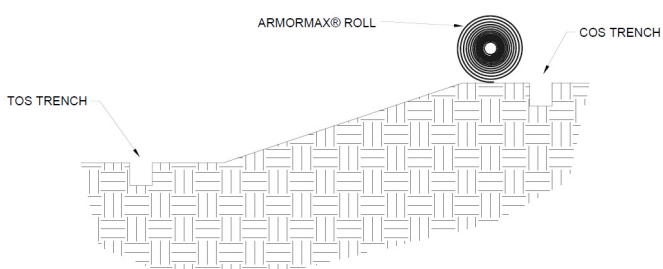
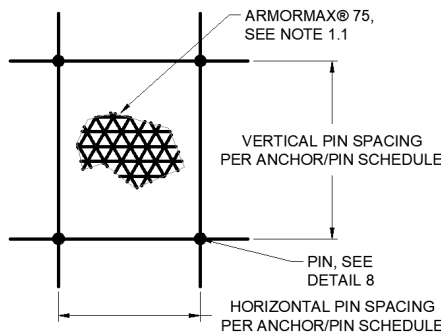
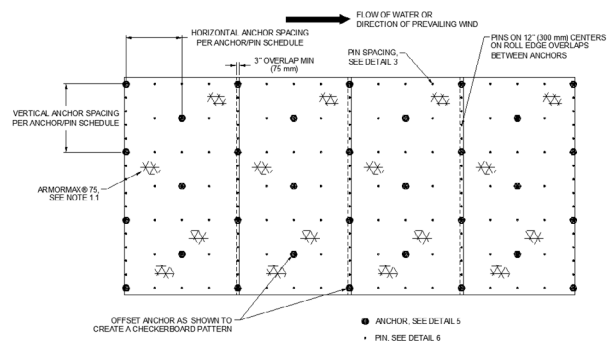
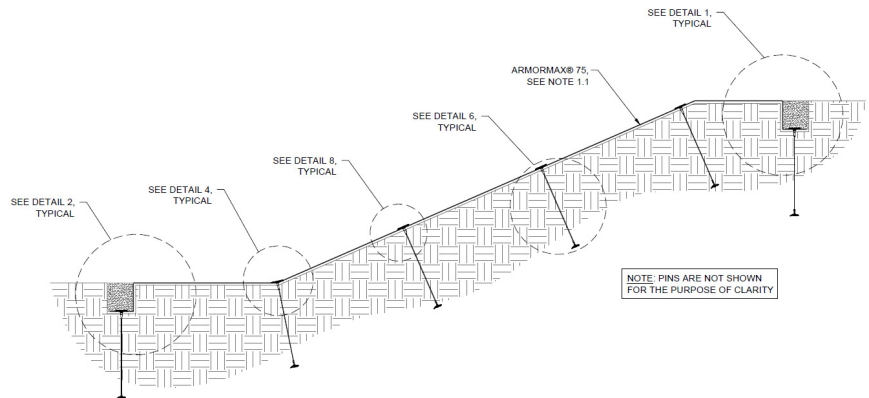

Figure 3: Crest of Slope (COS) Trench Alignment
Figure 7: Example Pin Pattern
Figure 8: Example of Anchor Pattern - 0.5 Anchors/yd²
Figure 13: Completed Slope Isometric View
2. Starting at the COS trench, lay **PROPEX** Armormax roll so that the roll ends point towards the crest of the slope (Figure 3), with a 3 in (75 mm) overlap created at adjacent panel edge locations. Ensure that adjacent panel edges maintain a minimum 3 in (75 mm) overlap during **PROPEX** Armormax laydown (Figure 8).
- Secure HPTRM panels in place using pins, primary anchors, and anchors across the slope surface according to the project's engineered design. Pin and anchor placement should reflect a staggered checkerboard pattern across the slope surface for best results (Figure 7 and Figure 8).
- Roll edges shall be overlapped a minimum of 3 in (75 mm) and a maximum of 6 in (150mm) with pins placed on 12 in (300 mm) centers in between anchors on intervals based on the slope stability analysis (Figure 8).
9. Continue to work down the length of the slope by repeating steps 1 through 8 overlapping each adjacent HPTRM panel by 3 in (75 mm) (Figure 8). The last **PROPEX** Armormax panel should terminate on the Slope Armoring Edge (SAE) with pins on 12 in (300 mm) centers in between anchors on intervals based on the slope stability analysis. At a minimum, HPTRM panels should be pinned entirely across the slope surface, pins and anchors should be installed in the trenches, and the trenches should be backfilled and compacted at the end of each day to minimize rework in the case of a major rain event. Specific project conditions may warrant further evaluation of installation order for ease. An example elevation view (Figure 13) of a slope armored with **PROPEX** Armormax can be seen below for overall reference. Consult Solmax Engineering Services at (800) 621-1273 with any questions that you may have.